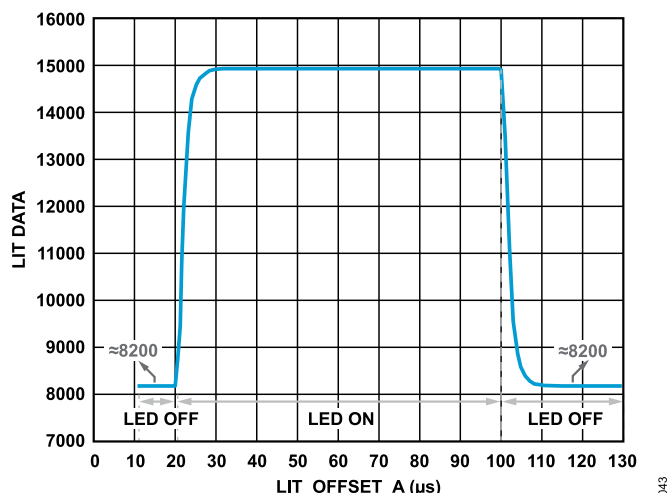

Figure 44. Timing of CT_DBLP3112 (Green LED)
5. Plot the mean value of the lit data and LIT_OFFSET_A. The response time of the optical device (for example, CT_DBLP3112) is shown in Figure 44.